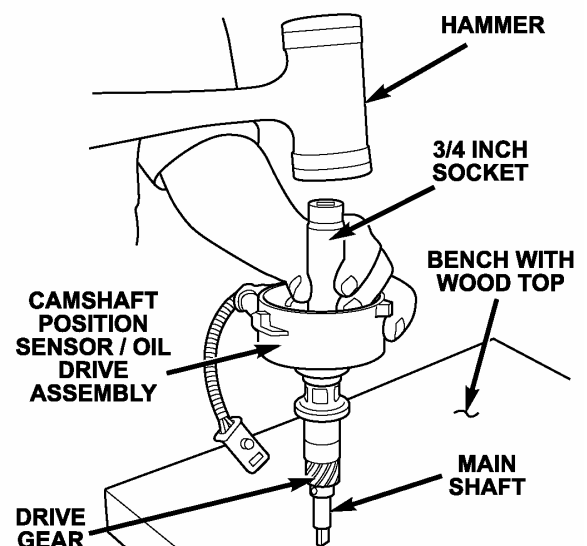

Figure 7
- b. Place a ¾ inch deep well socket over the shaft at the trigger wheel (Figure 7).